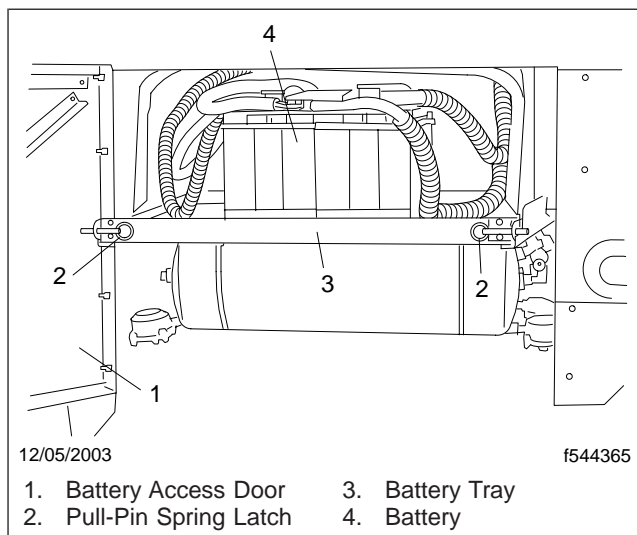

Fig. 14.3, Battery Access
2. To gain access to the batteries, open the battery compartment. See Fig. 14.3. For detailed instructions, see Chapter 2.